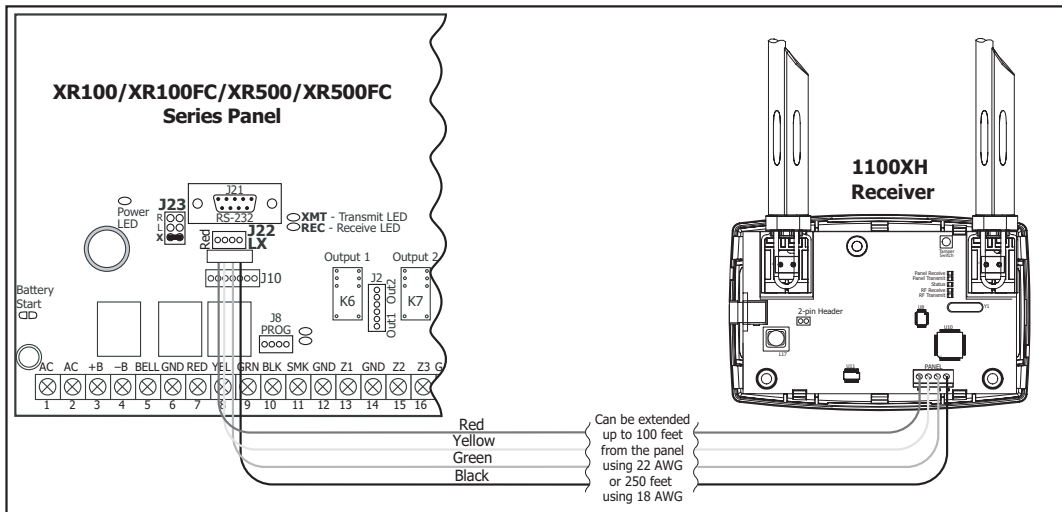

Figure 3: XR100/XR100FC or XR500/XR500FC DMP Wireless Bus Connection
- Verify that the panel XMIT and REC LEDs alternately flash on and off at a rate of 1/4 second each. If the LEDs are On steady or Off, the panel and receiver are not communicating properly. (See Figure 3 and 4).